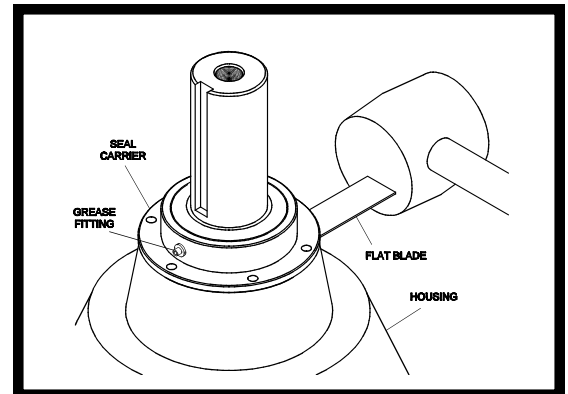

Figure 6.2.1—Separation of Seal Carrier From Hub
4. Using a **flat blade** and a hammer, break the seal between the seal carrier assembly and the input or output housing; **reference Figure 6.2.1**.